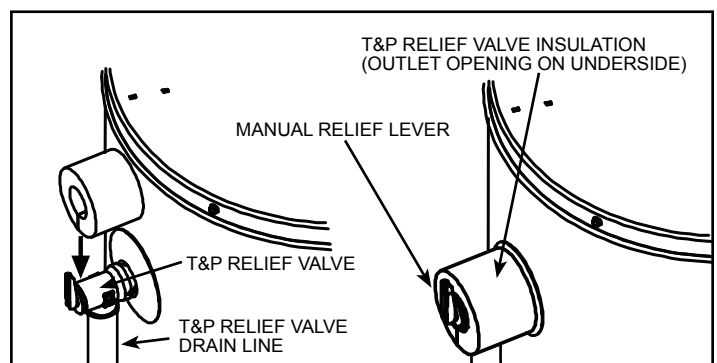

Figure 9. T&P Valve Insulation
Locate the temperature and pressure relief valve on the water heater (also known as a T&P relief valve) (see Figure 9).
2. Spread the slit open and fit the insulation over the T&P relief valve (see Figure 9). Apply gentle pressure to the insulation to ensure that it is fully seated on the T&P Relief Valve. Once seated, secure the insulation with duct tape, electrical tape, or equivalent.
- Important:** The insulation and tape must not block the discharge opening or hinder access to the manual relief lever (Figure 9). Ensure a discharge pipe is installed into the T&P valve discharge opening per the instructions in this manual.